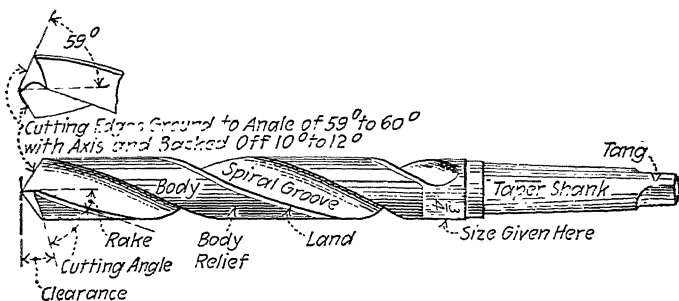

FIG. 125.—Taper-shank twist drill.
**138. The Twist Drill.**—The twist drill (Fig. 125) has almost entirely superseded the flat drill. The spiral flute forms the *rake angle* and gives a cutting angle of about 60 deg. Examine a twist drill and note that after the flutes are cut the remaining portion of the surface of the body is backed off or relieved and only a very narrow “land” is left. This body clearance reduces the friction of the drill in the hole.